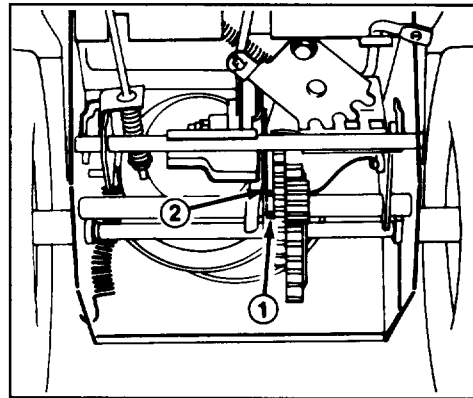

Figure 28
4. Shift speed selector to third gear and push down on speed selector plate to move drive assembly to the right. Drive assembly should contact roll pin; if not, push to the right to make a contact (Fig. 28).